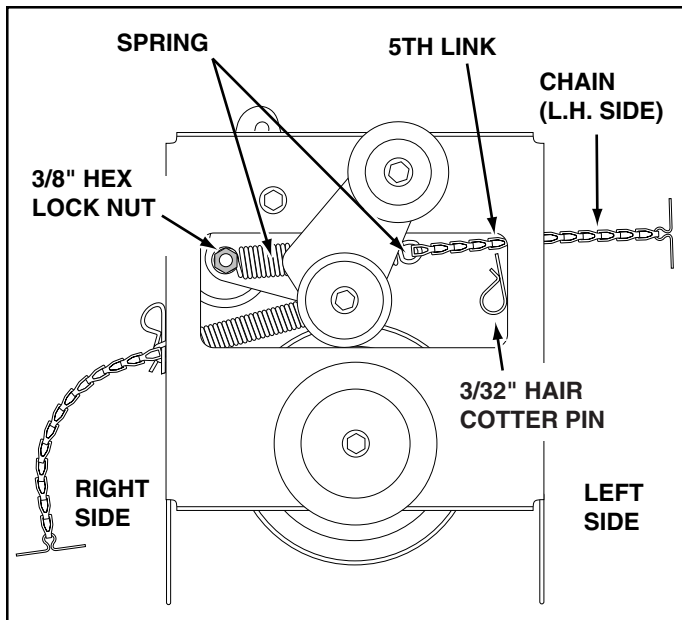

FIGURE 12 VIEW OF BOTTOM
- Hook the loose spring through the end of the tensioning chain. See figure 12.
- Hook the other end of the spring onto the bottom of the bolt and nut which secure the idler pulley to the upper idler arm. Hold the bolt head and assemble a 3/8" hex lock nut onto the bolt, leaving it loose enough for the spring to pivot freely between the two nuts. See figure 12.
- Attach a 3/32" hairpin cotter to the chain, placing it in the fifth link from the spring. See figure 12.